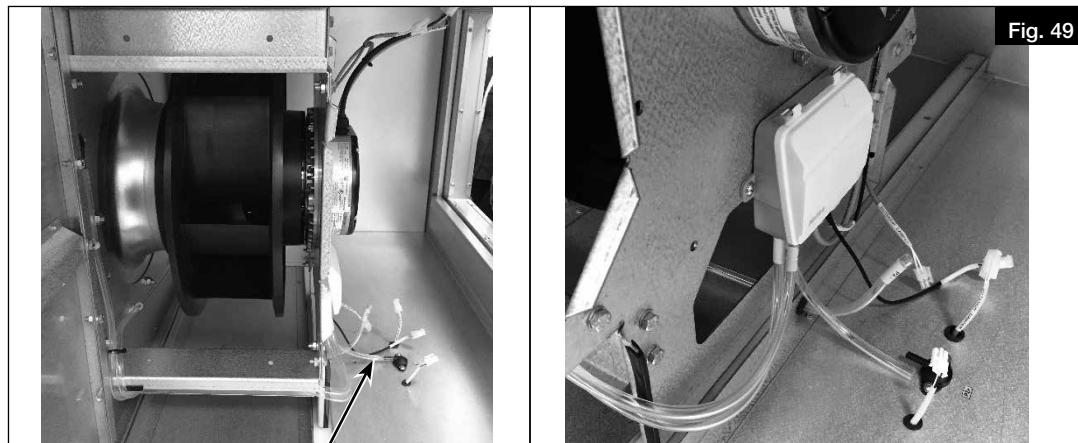

Fig. 49
3. Remove pressure hose (P2+) from fan as follows (Fig. 49).